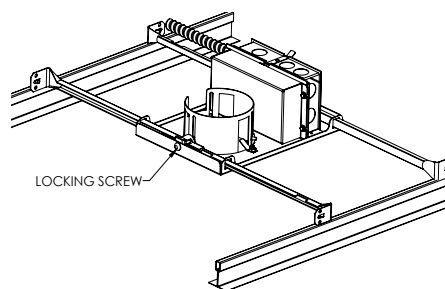

FIGURE 2
1. Loosen locking screws to extend hanger bars. See Figure 2.